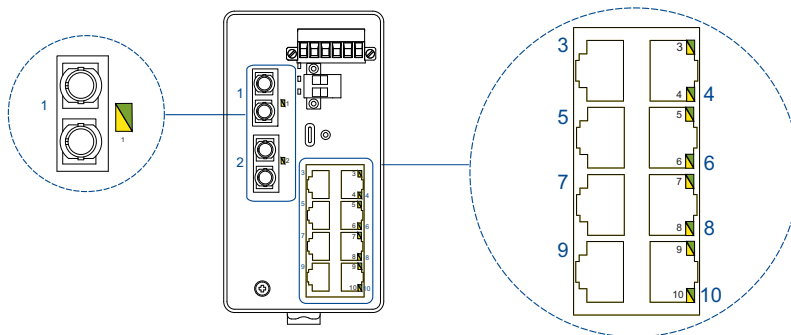

Figure 3: Position of the port display elements on the device variants with 8 × RJ45 sockets
- ▶ For the position of the port display elements on the device variants with 8 × RJ45 sockets see figure 3.
- ▶ For the position of the port display elements on the device variants with 20 × RJ45 sockets see figure 3.